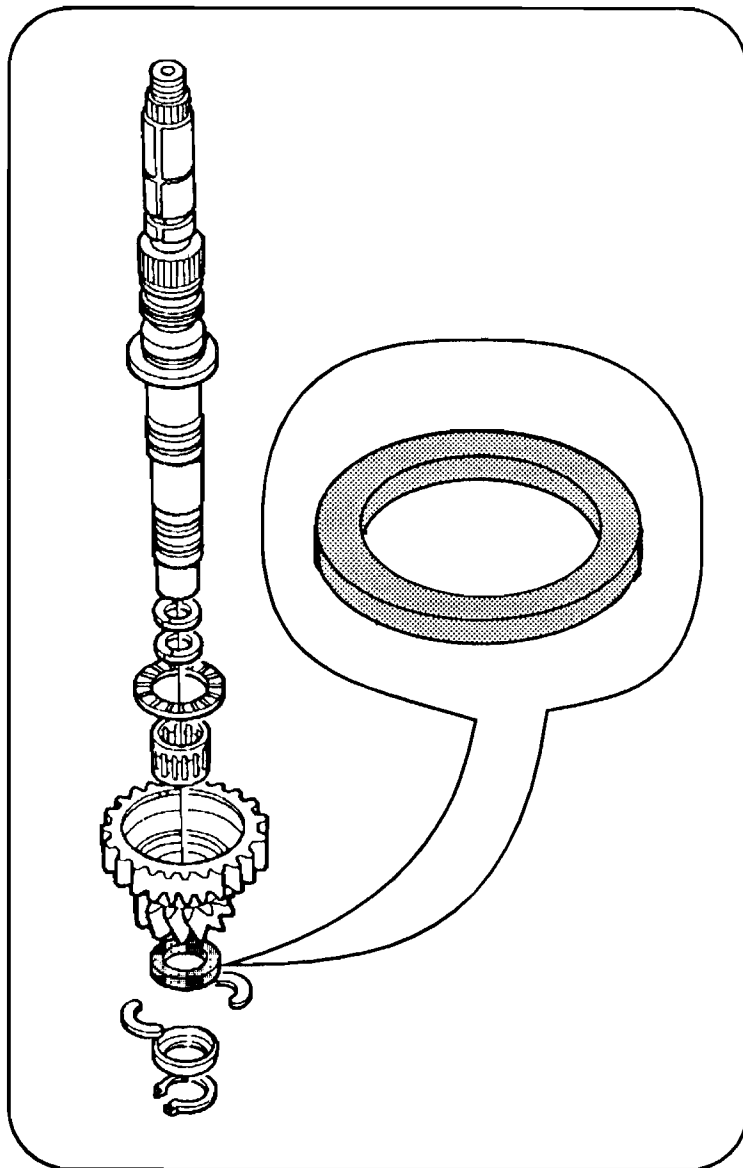

Figure 28
**Correction:** The countershaft distance collar must measure 46mm (1.811") in length. (See figure 28)